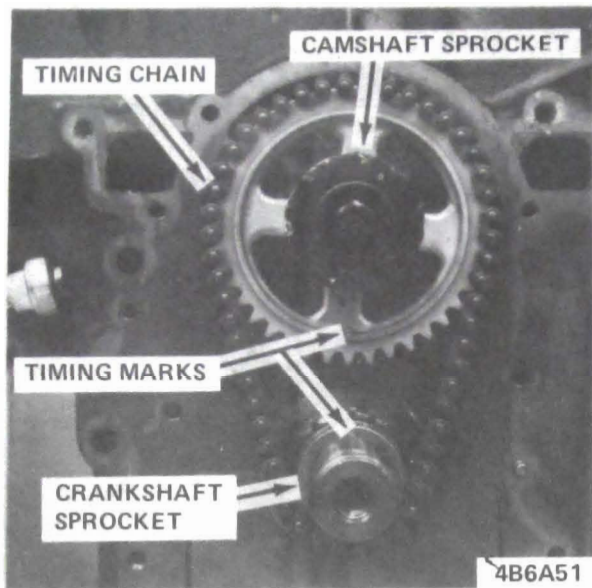

Figure 6A-97 - Installation of Timing Chain and Sprocket - 350 Cu. In.
1. With timing chain cover removed temporarily install harmonic balancer bolt and washer in end of crankshaft. Turn crankshaft so sprockets are positioned as shown in Figure 6A-97. Remove harmonic balancer bolt and washer using a sharp blow on the wrench handle, so that the bolt can be started out without changing position of sprockets.